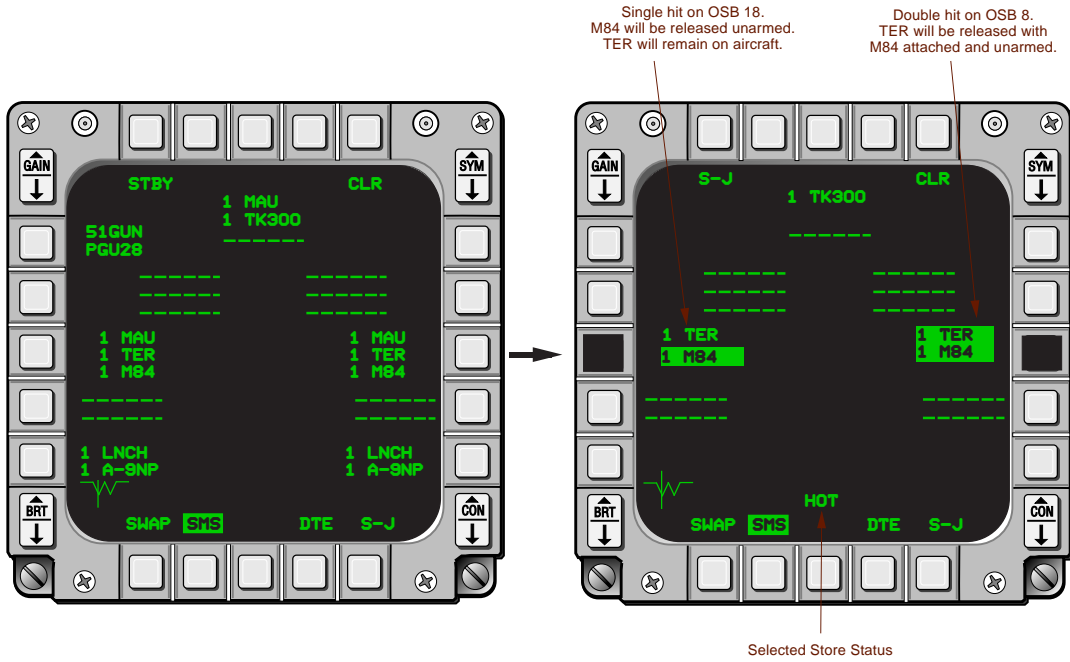

Figure 1-40 SMS Selective Jettison Page
**Selective Jettison Page.** The S-J page and the S-J mastermode are selected by depressing OSB 11 adjacent to the S-J label on any SMS page except BIT or TEST (Figure 1-40). The S-J page allows the pilot to jettison weapons and racks unarmed or unguided from selected aircraft stations. Only jettisonable stores will be displayed for selection.